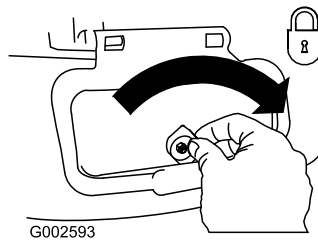

Figure 20
**Important:** Lock the side-discharge deflector after you close it (Figure 20).